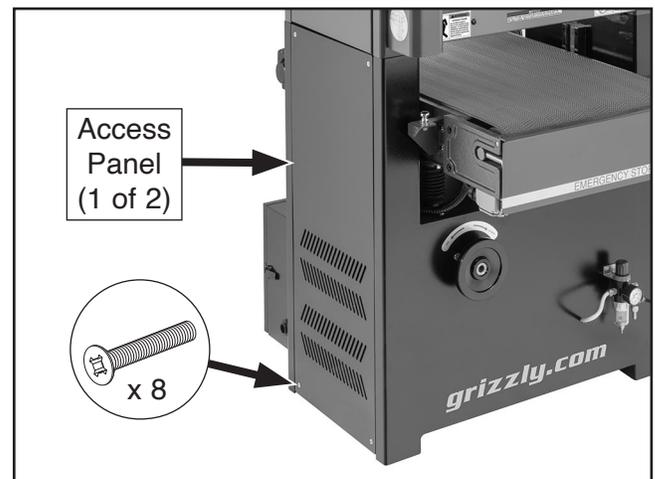

Figure 95. Location of access panels and securing screws.
7. Remove (8) screws shown in **Figure 95** to remove left and right access panels.